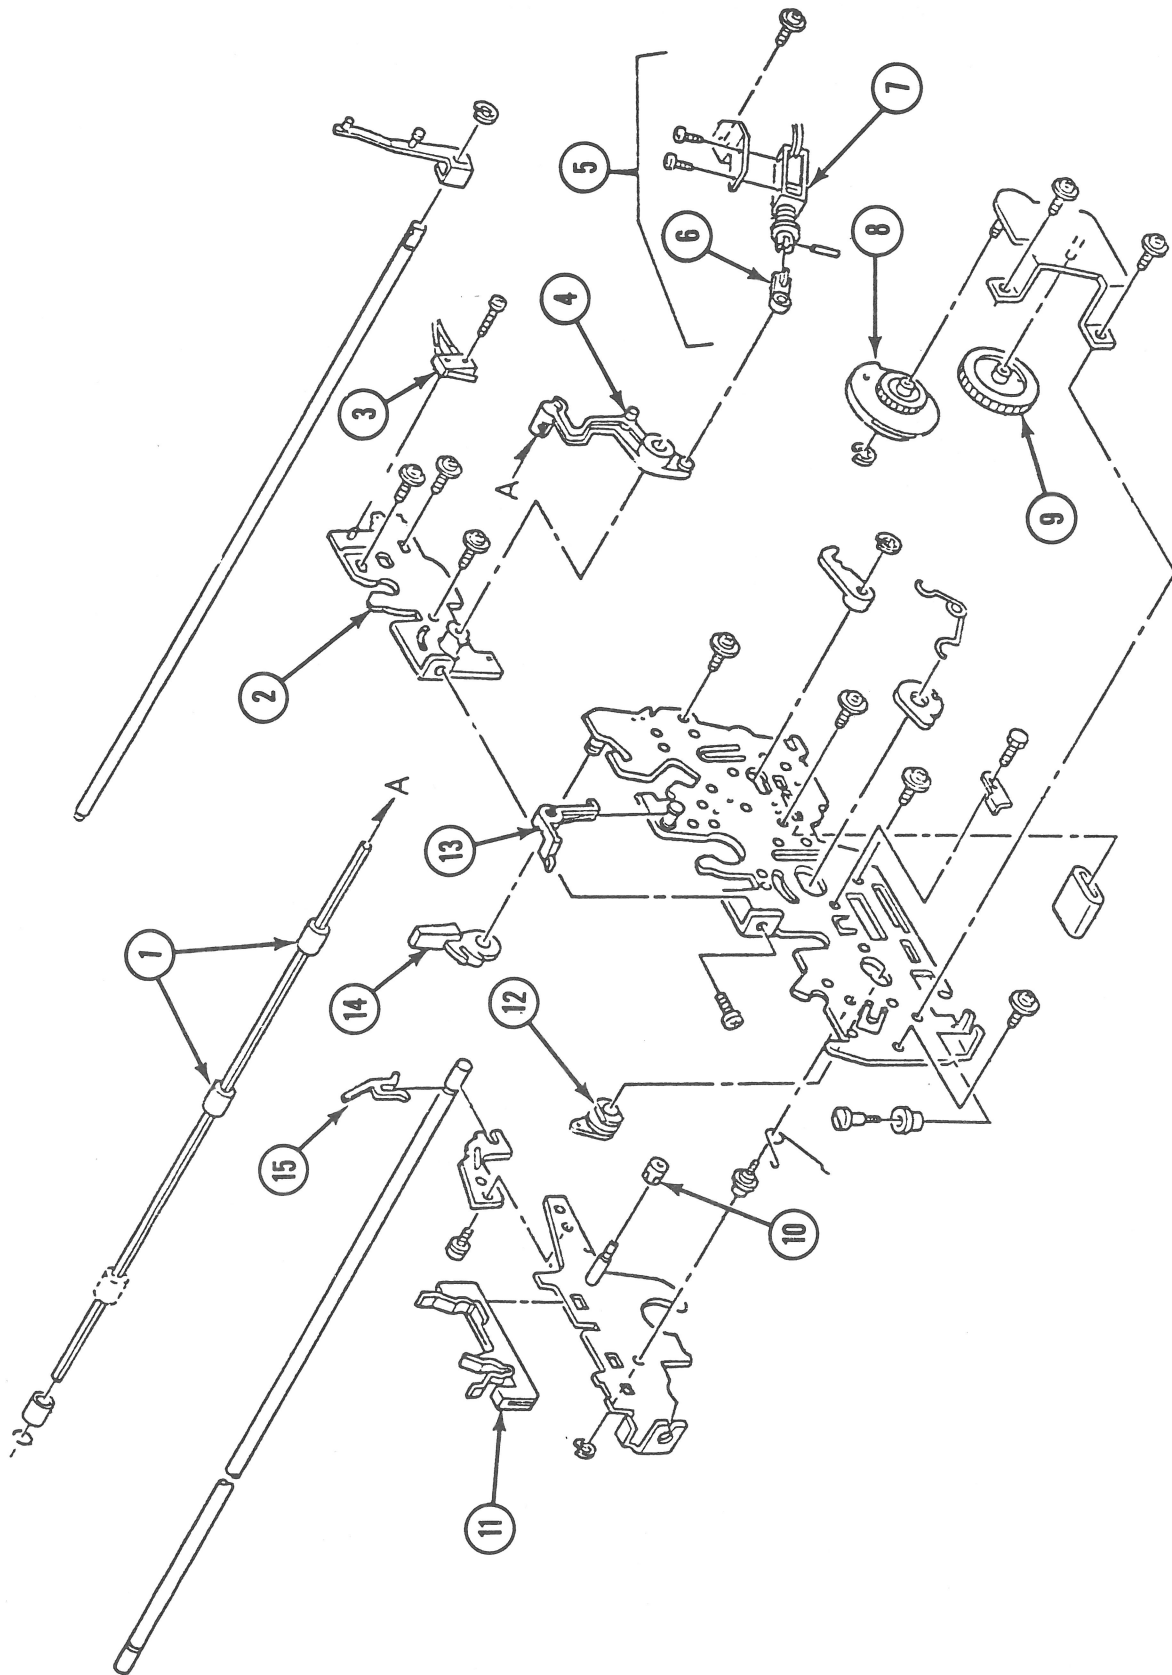

FIGURE 8
□ RIGHT SIDE FRAME ASSEMBLY (Figure 8)